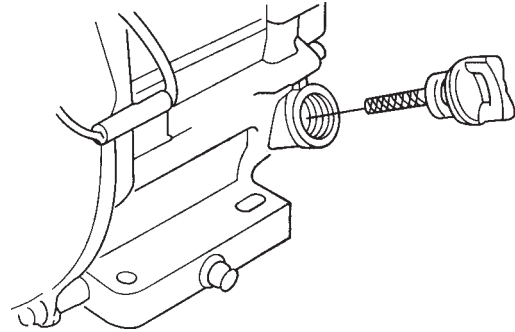

Figure 4. Engine Oil Dipstick Removal
2. Remove the dipstick from the engine oil filler hole (Figure 4) and wipe it clean.